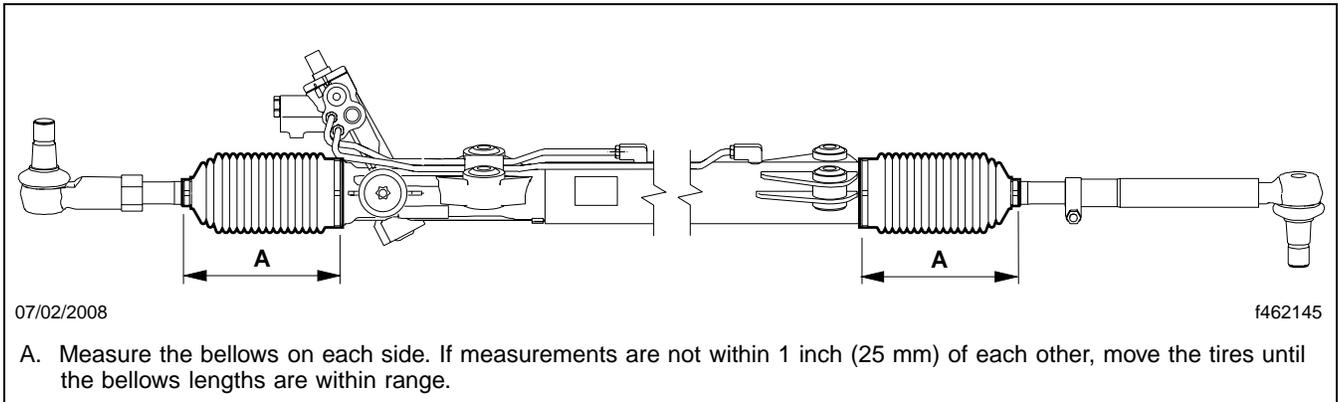

Fig. 9, Measuring the Tie Rod Bellows
- 35.1 Measure the length of the bellows from clamp to clamp on each side of the gear. See **Fig. 9**. If measurements are not within 1 inch (25 mm) of each other, move the tires until the bellows lengths are within range.